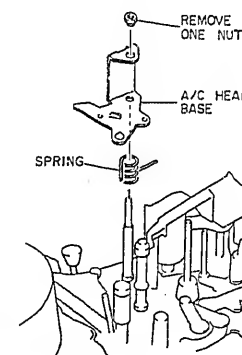

Fig. 2-76
1. Remove one (1) nut holding the A/C head base. (See Fig. 2-76)